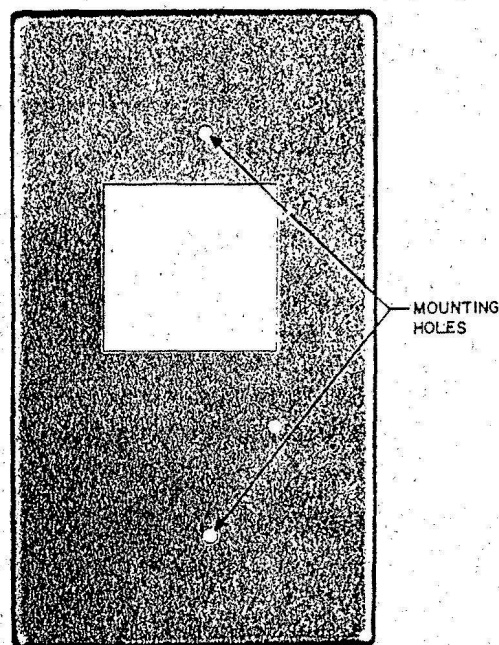

Fig. 7 - F-55854 Backboard
5.08 In cases where an inside wire is already in place through a wall, an exposed wire run may be necessary between dial light transformer and wall set. If a 155A adapter plate is used, the exposed wire may enter the set through openings at top or bottom. If an F-55854 backboard (Fig. 7) is used, the exposed wire may enter set through the backplate from behind the backboard. See Tables C and D of Fig. 9 for connections.